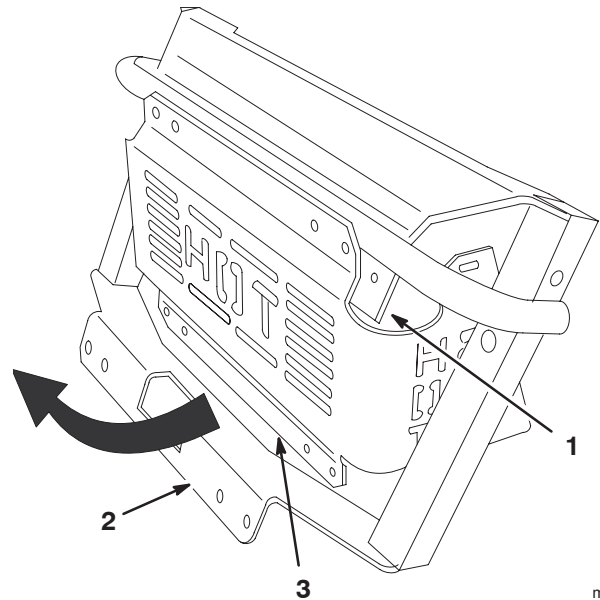

Figure 7
- With the bagger bar in the heat shield notches, push the bottom of the heat shield towards the rear and past the back of the bagger bracket (Fig. 7).